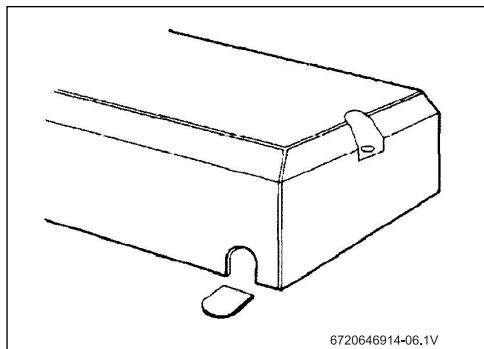

Fig. 5 Unit cover
- If it is going to be through the cover bottom, cut out the plastic lug to expose the rubber sleeve (Fig. 5):